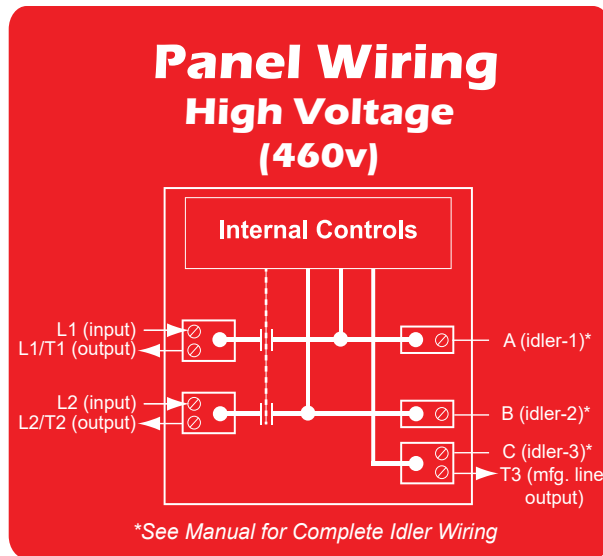

Figure 3.2.1 (*Lug diagram may be different on larger units)
Locate the (A) terminal. Connect one wire to this barrel lug. This wire should connect to wire 1 inside the idler junction box using ring terminals bolts and nuts. (See fig 3.2.1 & 3.2.2 on pg 11.)
Locate the (B) terminal. Connect one wire to this barrel lug. This wire should connect to wire 2 inside the idler junction box using ring terminals bolts and nuts. (See fig 3.2.1 & 3.2.2 on pg 11.)
Locate the (C) terminal. Connect one wire to this double barrel lug. This wire should connect to wire 3 inside the idler junction box using ring terminals bolts and nuts. (See fig 3.2.1 & 3.2.2 on pg 11.)
Connect wires to L1/L2 lugs and connect ground wire to the ground lug. (See fig. 3.2.1 on pg 11.)